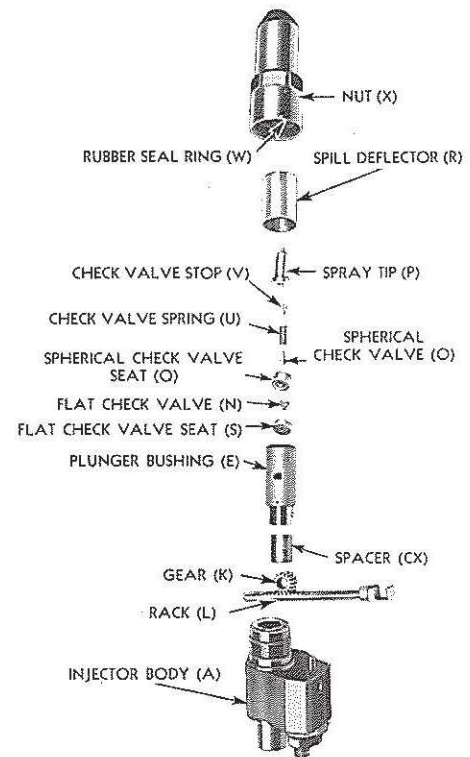

FIG. 10
3. Hold the injector body bottom end up and slide the rack through the $\frac{1}{4}$ inch (approx.) hole in the body so the two marked teeth can be observed when looking from the bottom into the bore of the gear. See Fig. 10. The injector rack can be placed in the injector body in only one position and have the teeth marks show in the opening of the gear.